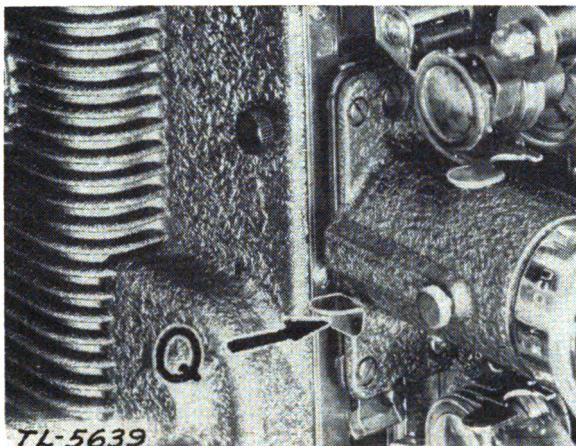

FIGURE 28.—Phono film framing lever.
10. Framing image.—For correct framing, each individual frame of the film must be centered properly at the film gate. When improperly framed, the image on the screen appears divided. To frame the image on the Bell & Howell and Phono film projectors, move the framing lever *Q* (fig. 28) up or down until the image appears nor-